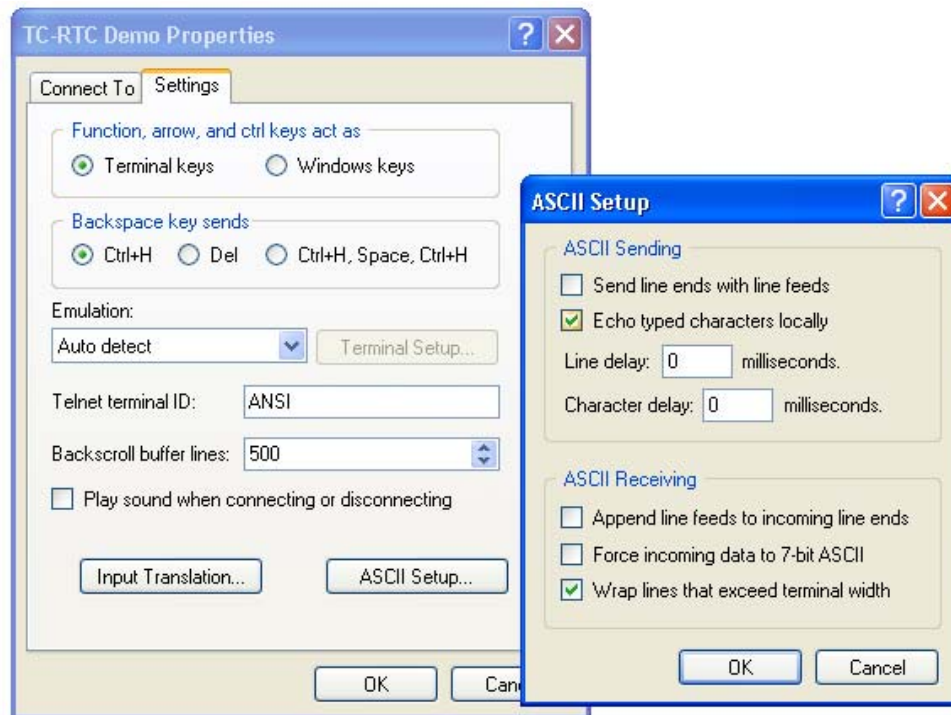

Figure 4. HyperTerminal ASCII Setup
5. Select "File→Properties→Settings→ASCII Setup". Check the box marked "Echo typed characters locally", and click OK. See Figure 4.
2. Depending on which type of debug adapter you have, set up the hardware as shown in one of the two diagrams below (Figure 4, Figure 5). Consult the C8051F300DK User's Guide if you need detailed instructions.